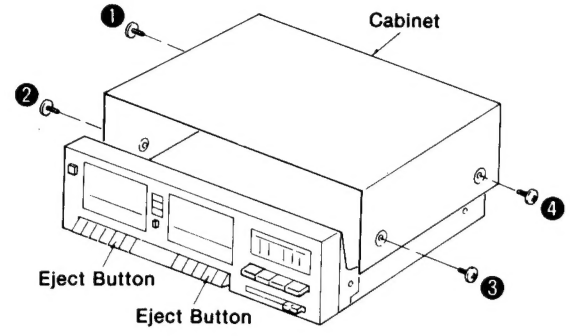

Fig. 1
1. Push the eject button (see fig. 1).
2. Remove the 6 screws (①~⑥).
3. Remove the counter belt (for mechanism unit of tape ②).